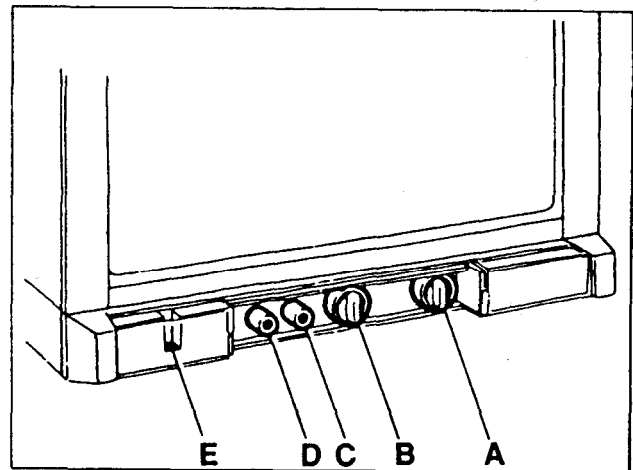

Fig. 4
1. Start the refrigerator according to the instruction for gas operation with piezo igniter (fig. 4).
Gas Operation (Fig. 4)
Electric Operation (Fig 4)